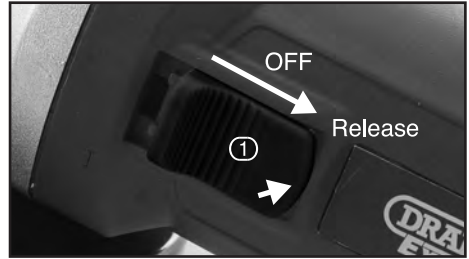

FIG.7
9.1 ON/OFF SWITCH - FIGS. 7 – 8